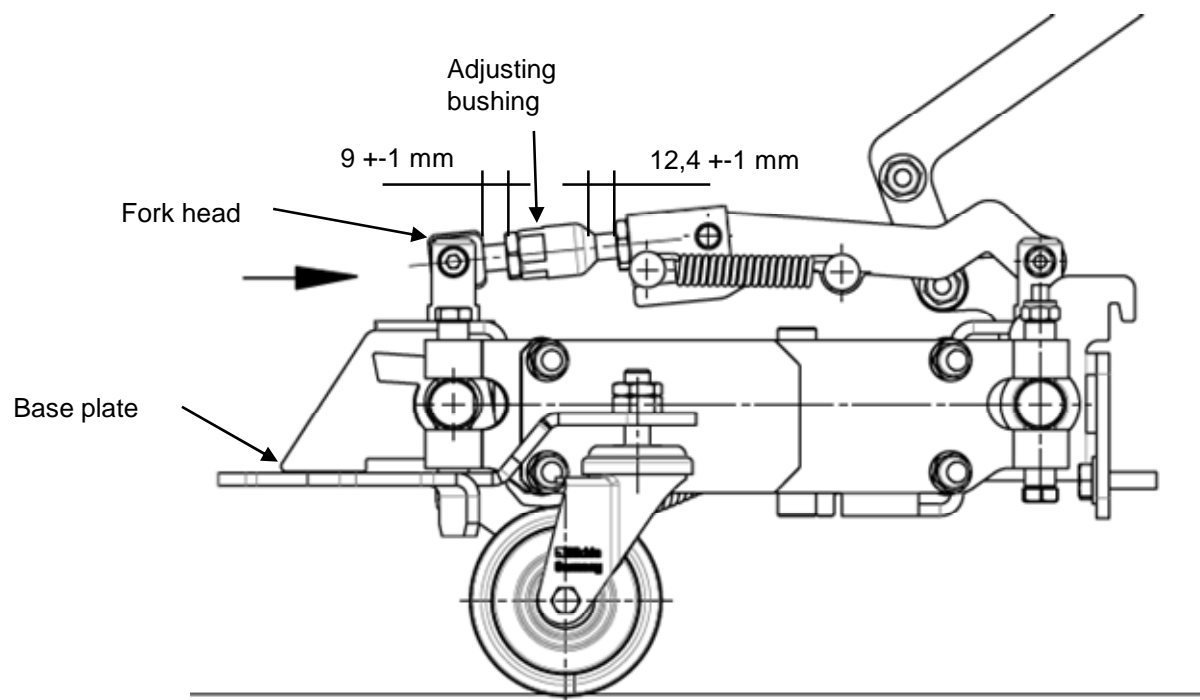

Figure 1
1. For default setting of adjusting bushing see figure 1 (dimensions 9 and 12.4 mm).